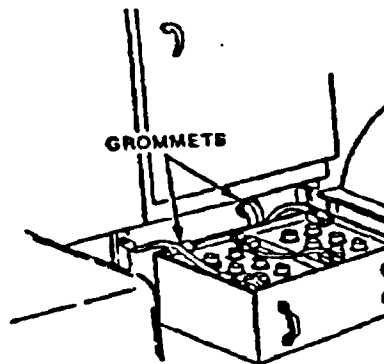

Figure 3-16
- (p) Complete battery installation. Check that rubber grommets are in place around cables to prevent cables from being cut or otherwise damaged in holes. Install battery terminal lug covers, (Item 5, Appx. C) over battery posts to prevent battery cover-to-terminal lug contact (See Figure 3-16).